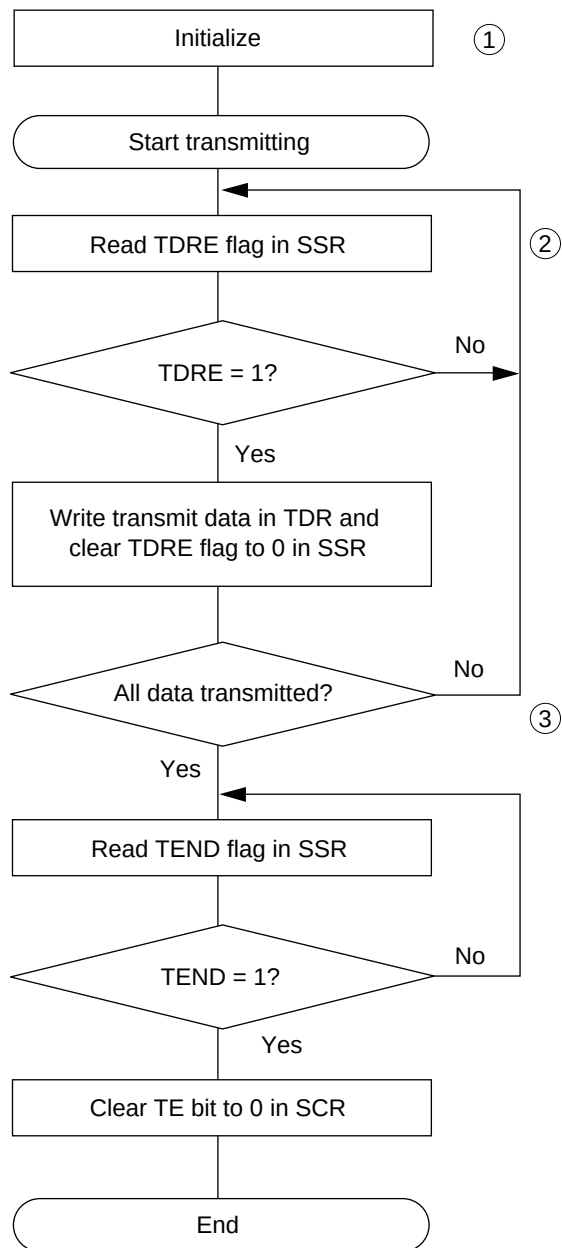

**Figure 14.18 Sample Flowchart for Serial Transmitting**
**Transmitting Serial Data (Synchronous Mode):** Figure 14.18 shows a sample flowchart for transmitting serial data and indicates the procedure to follow.